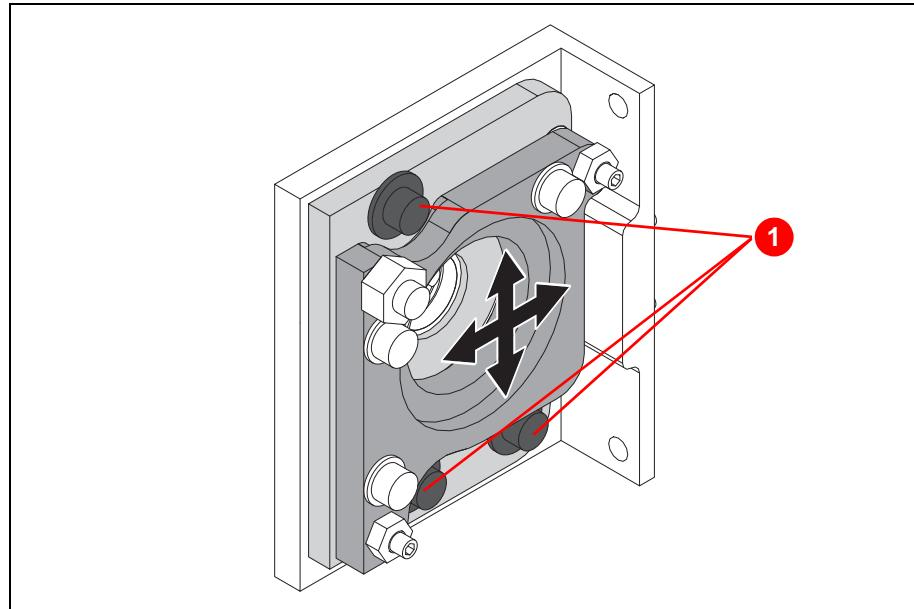
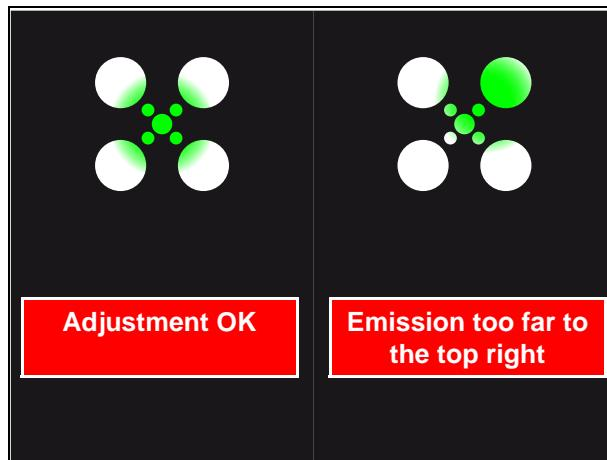

Figure 6.32 X/Y adjustment
Figure 6.33 Beam adjustment of beam expander in X/Y direction
42. Open the shutter and check the position of the beam (beam centered through the cross wires and mount) (see figure 6.33). If the beam is centered, continue with point 43. If the beam is off-center, loosen screws (1) and move the beam expander in the X and Y directions until the beam passes centrally through the cross wires. Carefully tighten the screws (1) afterwards.
49. Open the shutter and check the position of the beam (beam centered through the cross wires and mount) (see figure 6.33). If the beam is off-center, loosen screws (1) (Figure 6.32, page 6-28) and move the beam expander in the X and Y directions until the beam passes centrally through the cross wires. Carefully tighten the screws (1) afterwards.